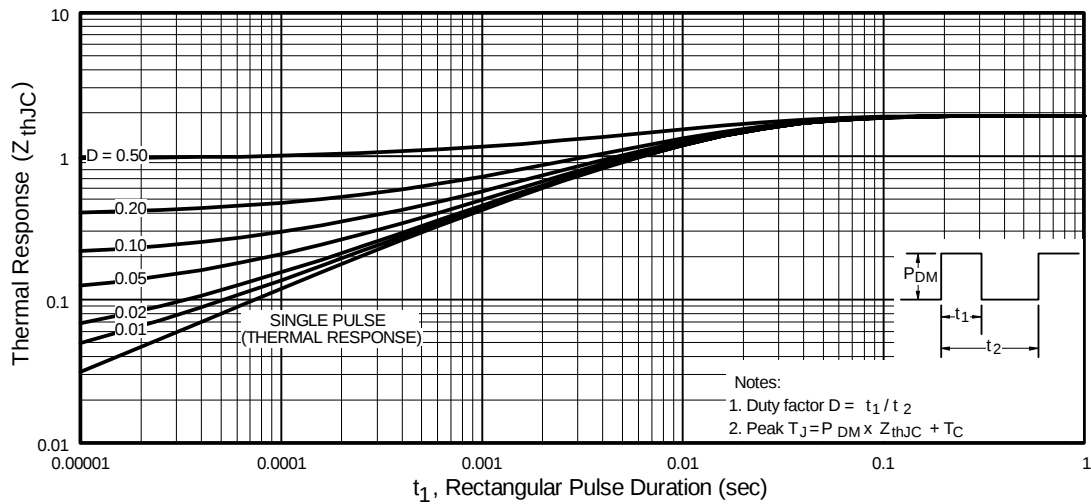

Fig 11. Maximum Effective Transient Thermal Impedance, Junction-to-Case
① Repetitive rating; pulse width limited by max. junction temperature. (See fig. 11)
② Starting $T_J = 25^\circ\text{C}$, $L = 6.4mH$